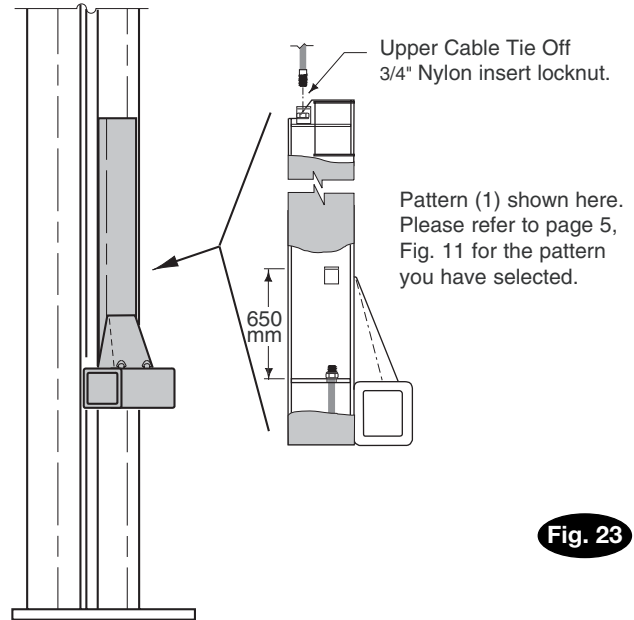

Fig. 23
19. **Final Adjustments:** Raise lift to check equalizer cable tension. Below carriage, grasp adjacent cables between thumb and forefinger, with about 67N. effort you should just pull the cables together. Adjust at upper tie-offs, Fig. 23.